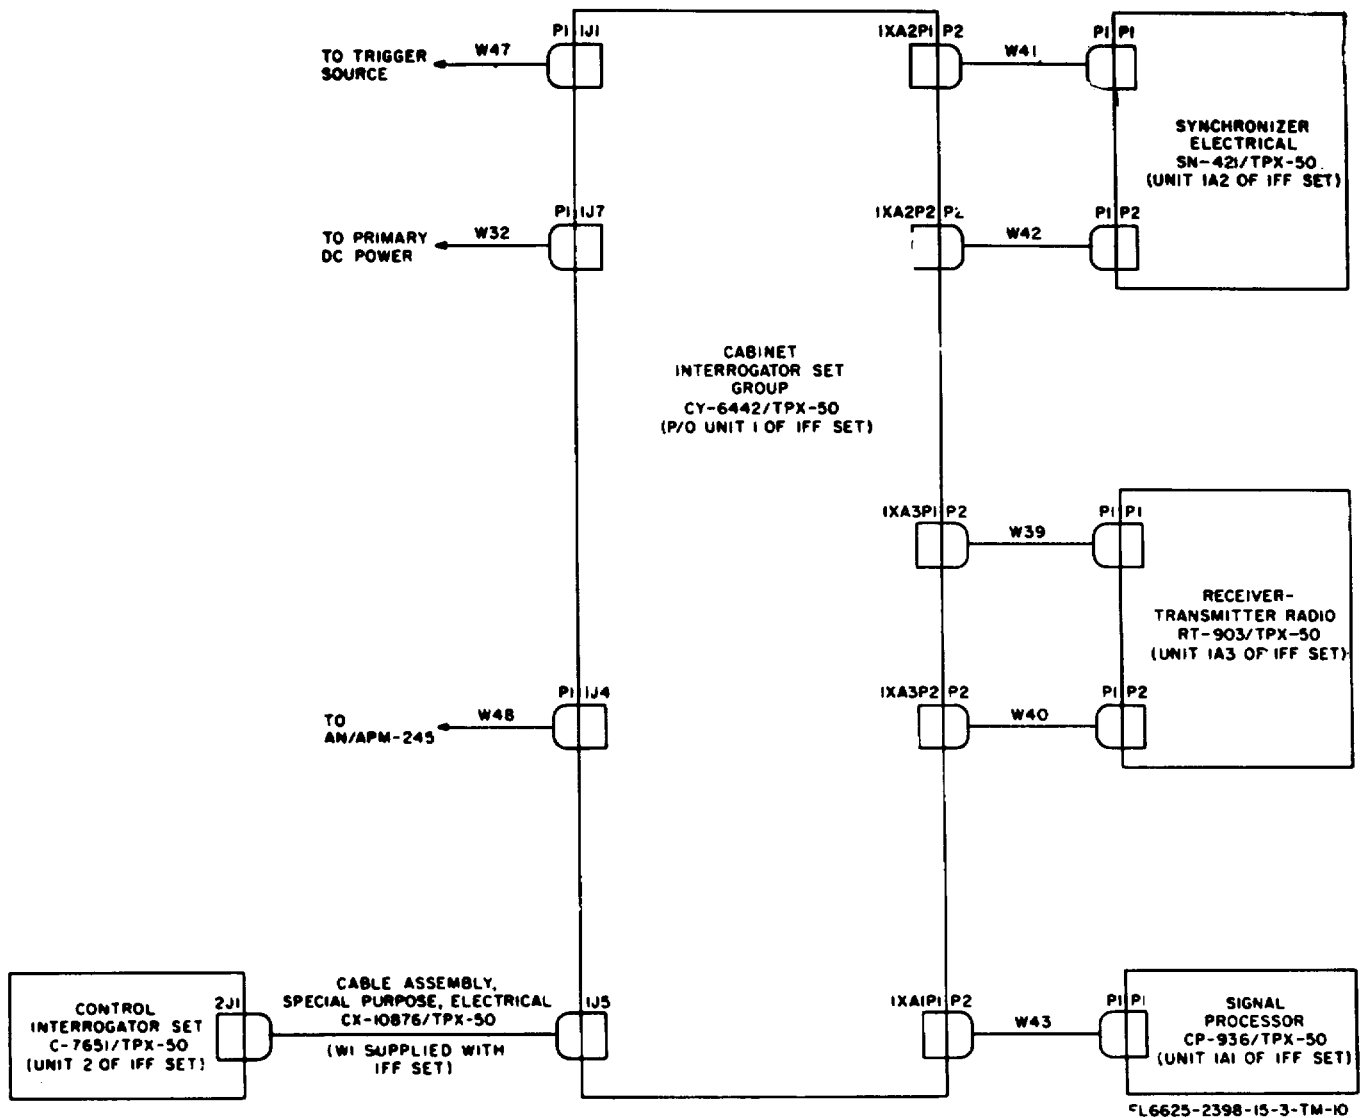

Figure 3-3. Connections of test cables to the IFF set.
(3) Depress the chassis slide locks and remove the component from the interrogator group case.
*b. Cable Connections (fig. 3-3).*
Cables W32 and W47 (fig. 3-3) are provided to connect input power and an input trigger to the interrogator group case. Connect P1 of cable W47 to PRETRIG connector 1J1 on the rear of the interrogator group case. Connect 1P2 of sable W47 via a 75-ohm video cable, such as CG-530B U (P O AN, UPM-98), to the trigger source.
Cable W48 (fig. 3-3) is provided to connect Test Set-Simulator, Transponder AN/APM-245 and